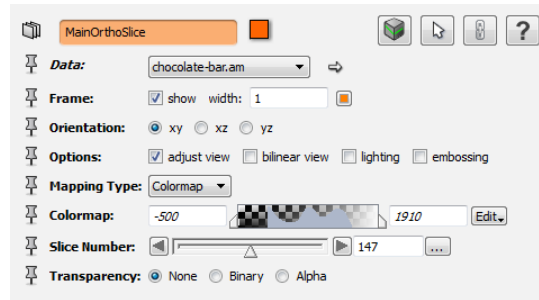

Figure 4.72: The *MainOrthoSlice* module properties.
- You may select the module *MainOrthoSlice* and adjust the colormap range of the edges area or transparency for better seeing the edge areas (see Figure 4.72).